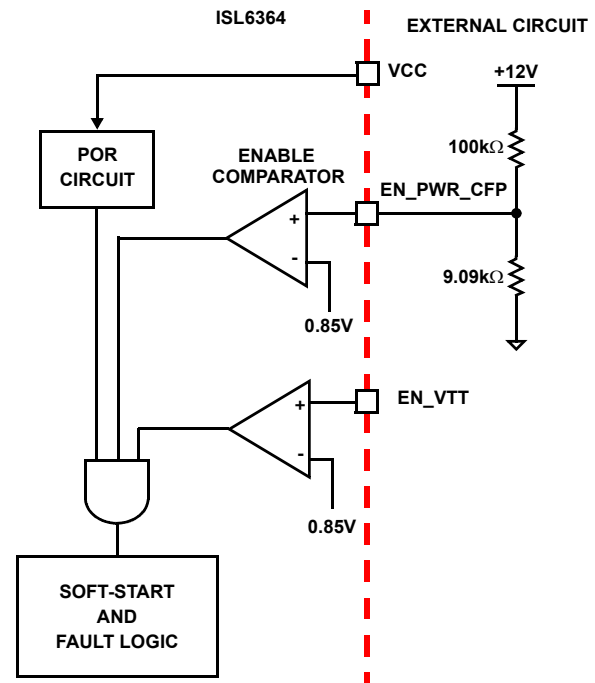

FIGURE 15. POWER SEQUENCING USING THRESHOLD-SENSITIVE ENABLE (EN) FUNCTION
2. The ISL6364 features an enable input (EN_PWR) for power sequencing between the controller bias voltage and another voltage rail. The enable comparator holds the ISL6364 in shutdown until the voltage at EN_PWR rises above 0.85V . The enable comparator has about 100mV of hysteresis to prevent bounce. It is important that the drivers reach their POR level before the ISL6364 becomes enabled. The schematic in Figure 15 demonstrates sequencing the ISL6364 with the ISL66xx family of Intersil MOSFET drivers.
The ISL6364 actively monitors output voltage and current to detect fault conditions. Fault monitors trigger protective measures to prevent damage to a microprocessor load. One common power-good indicator is provided for linking to external system monitors. The schematic in Figure 15 outlines the interaction between the fault monitors and the VR_RDY signal.